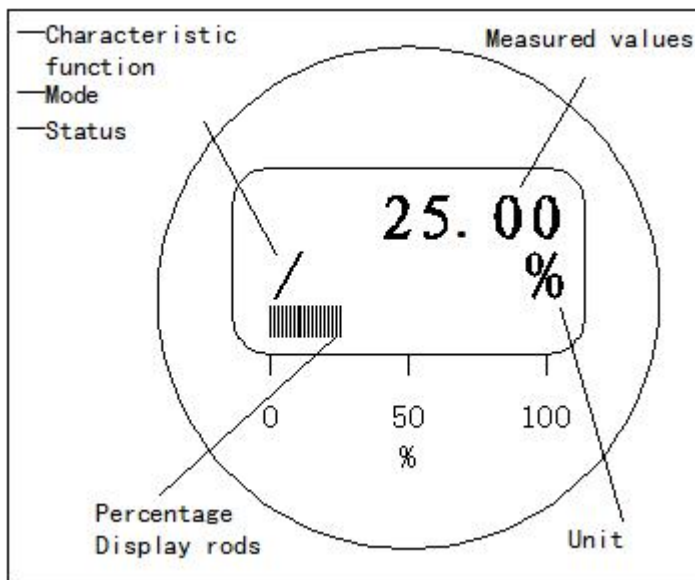
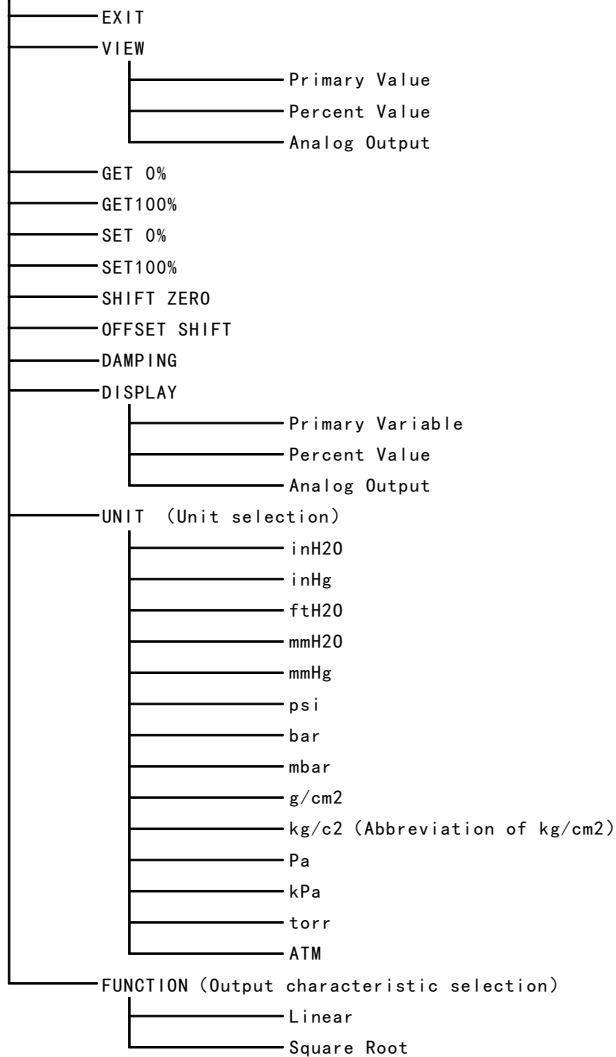

Figure7 LCD Display
Figure8 Menu Structure
When the transmitter is configured LCD, it can be adjusted through the button (Z) and (S) on the top of the transmitter, the following Figure7 and Figure8 show the LCD display and the menu structure: